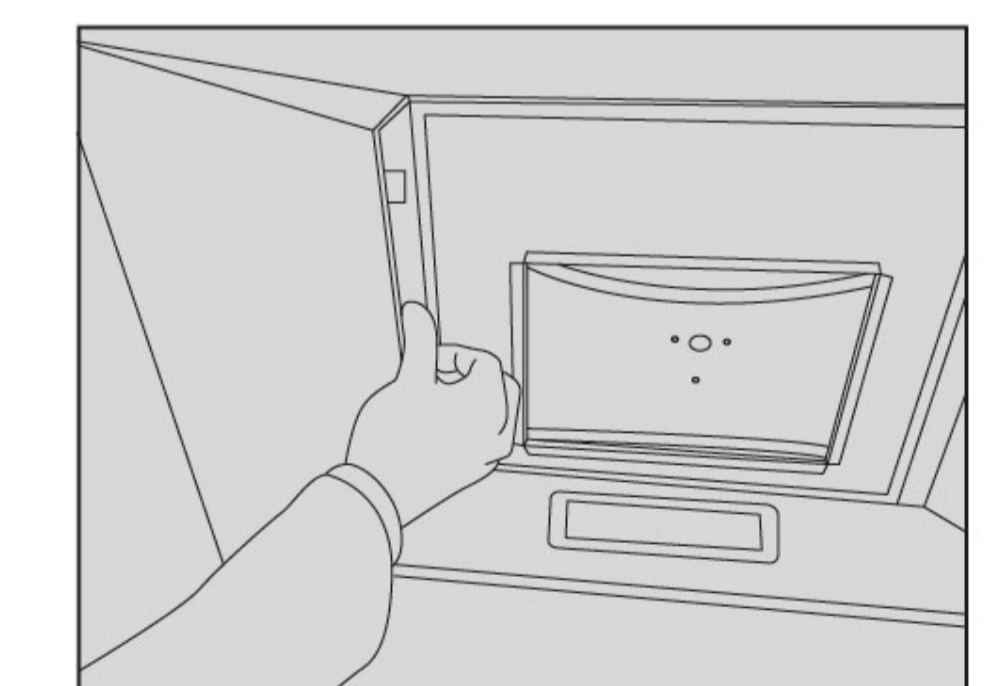

Fig.14
- d. Restore the plain net component to the original state of installation according to Figure 14.